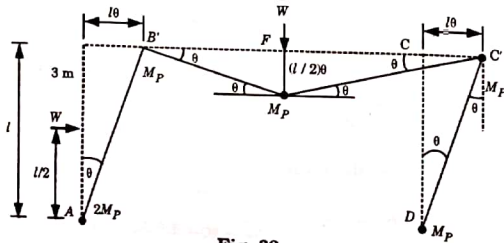

Fig. 32.
- a. This mechanism is shown in Fig. 32.